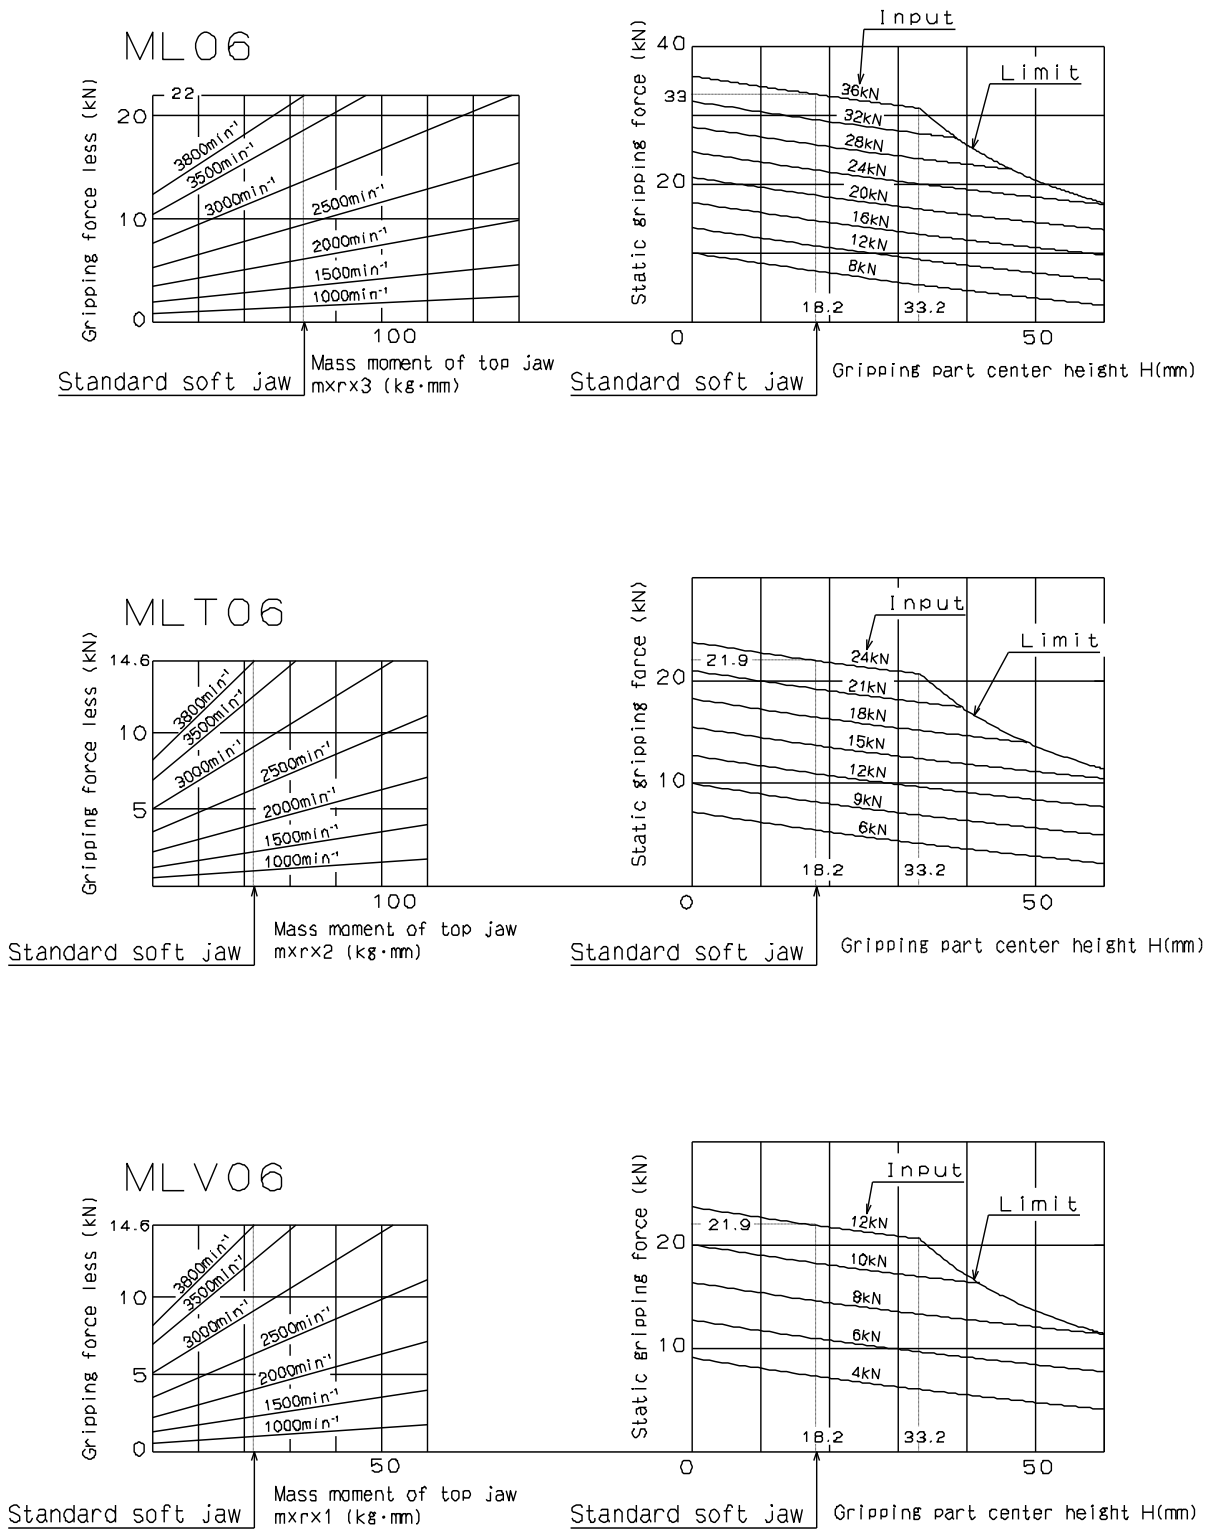

Fig.8-1
- **Keep the height of the top jaw within the range of the gripping force limit table. (Refer to Fig.8-1, 8-2)**
Analysis of the gripping force, input force and rotation speed using Fig. 8-1, 8-2 is carried out as shown below.
The required static gripping force and input force required at the rotation speed in use are predicted from Fig.8-1, 8-2, however, it contains a number of hypothetical conditions. Therefore, it is necessary to only use these as reference, and the processing conditions must be determined after trial cutting without fail.